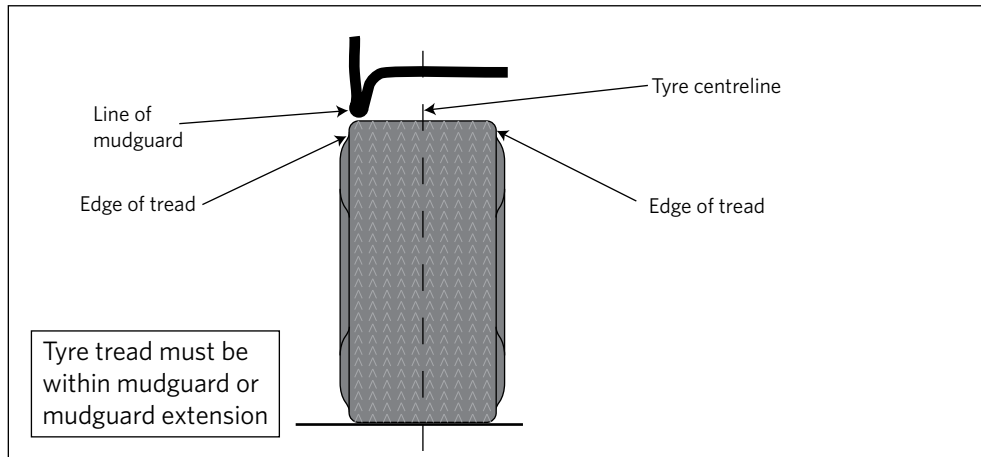
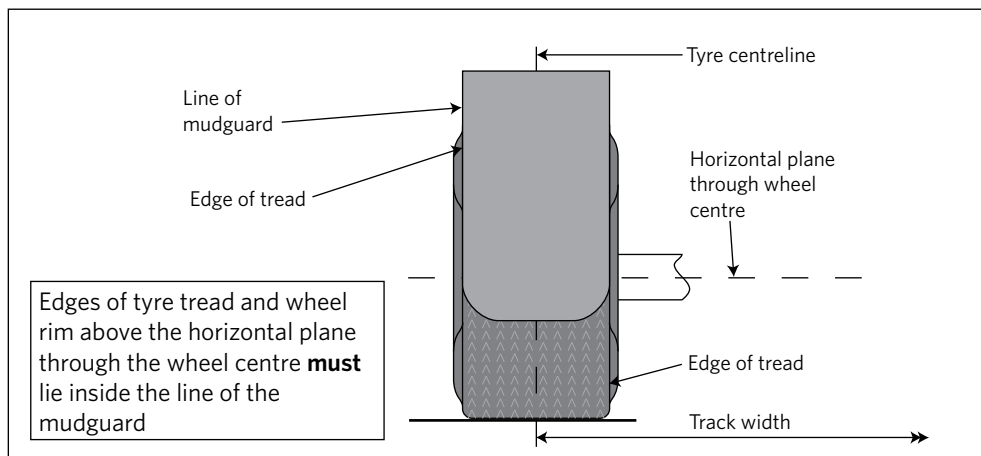

Figure 10-3-1. Size and position of mudguards which are incorporated into the body
Figure 10-3-2. Size and position of individual mudguards
- A mudguard does not cover the full width of the tread of the tyre or tyres fitted to a road wheel (**Figure 10-3-1** and **Figure 10-3-2**).